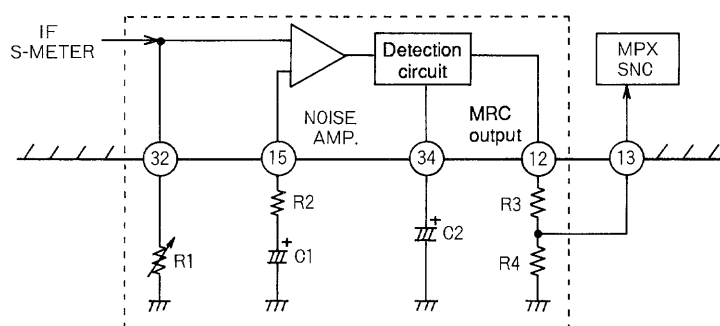
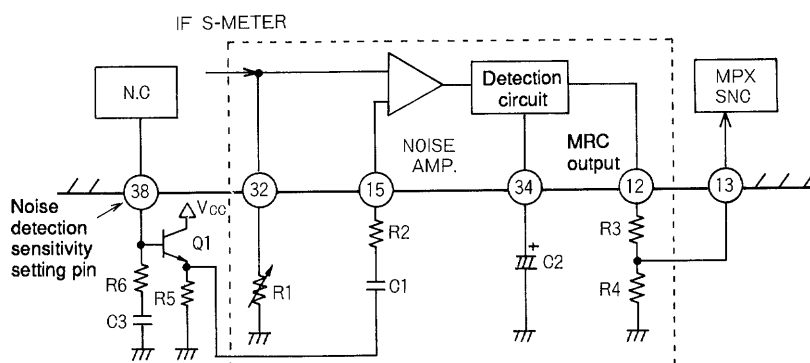
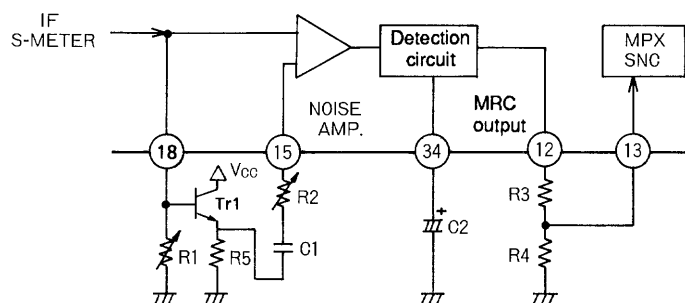
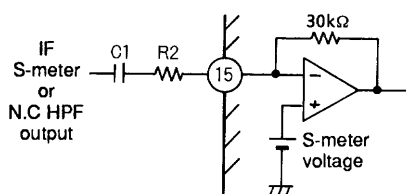

Figure 2 Multipath Circuit
Figure 3 Application Circuit Using NC HPF Noise Detection
Figure 4 Application Circuit Using IF S-Meter High-Area Detection
Figure 6
- The MRC (multipath rejection circuit) supports three techniques as shown in Figures 2, 3 and 4. Figure 2 shows the technique in which the S-meter AC component is detected directly. Figure 3 shows the technique in which the NC HPF noise is detected, and Figure 4 shows the technique in which multipath is detected using the S-meter high area components.
- In the technique of Figure 4, in which multipath is detected using the S-meter high area components, and In the technique of Figure 3, in which the NC HPF noise is detected, the noise amplifier gain is determined by R_2 and the internal 30 k Ω resistance as shown in Figure 6. The frequency characteristics of the circuit are determined by the capacitor C_1 .